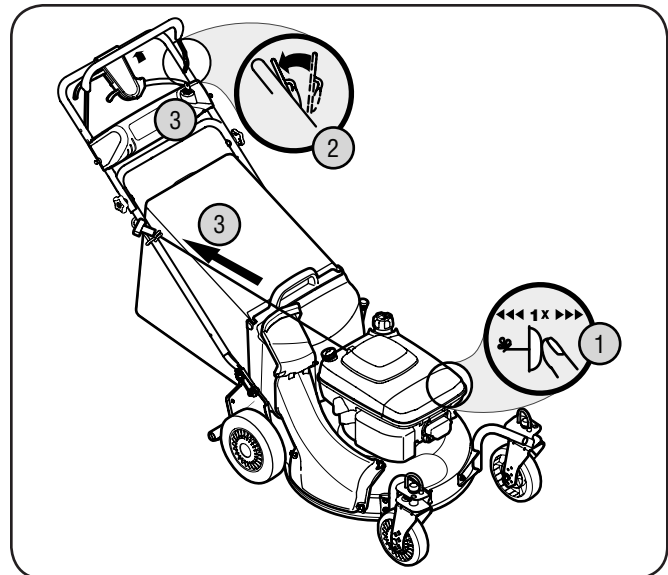

Figure 5-1
2. Standing behind the mower, depress the blade control and hold it against the upper handle. See Fig. 5-1.